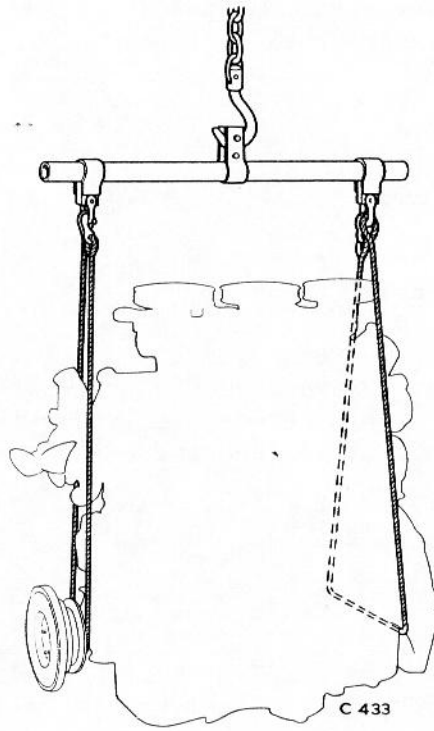

Fig.38 Engine sling.
- (a) Fit the engine lifting sling TFN.5029 to a hoist arranged at a convenient height above the engine. Pass the free end of the short (front) cable around the front end of the crankshaft (behind the pulley) and hook it to the front ring of the lifting bar. Pass the free end of the long (rear) cable through the space between the rear end of the sump and the gearbox bracket then hook the other end to the rear of the lifting bar, see Fig. 38.